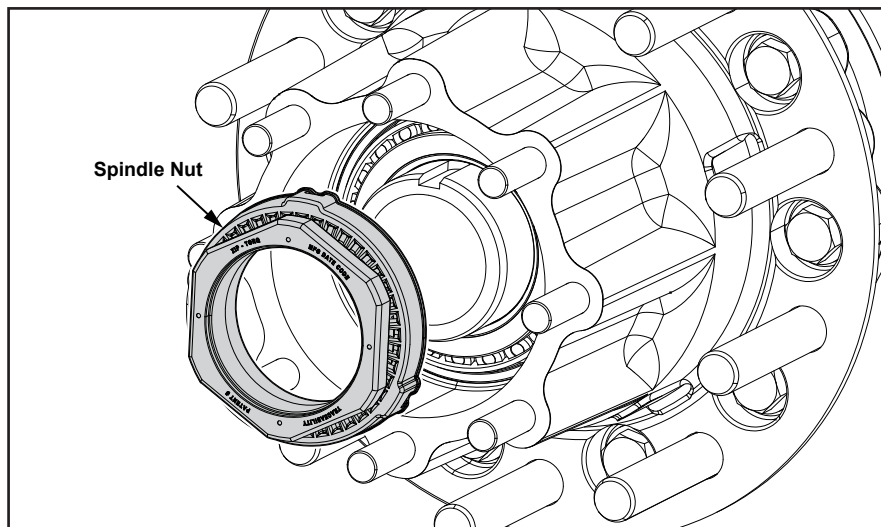

Figure 6
1. Tighten the spindle nut to 200 Lbs.-Ft of torque then rotate the wheel end assembly at least 1 full turn (*see Figure 6*).